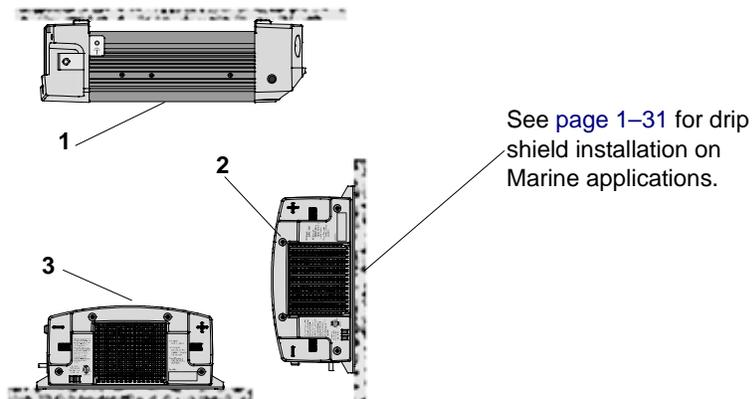

Figure 1-3 Approved Mounting Orientations
2. Select an appropriate mounting location and orientation. (See Figure 1-3 below.) To meet regulatory requirements, for use in on-land applications, the Freedom HF must be mounted in one of the following orientations: